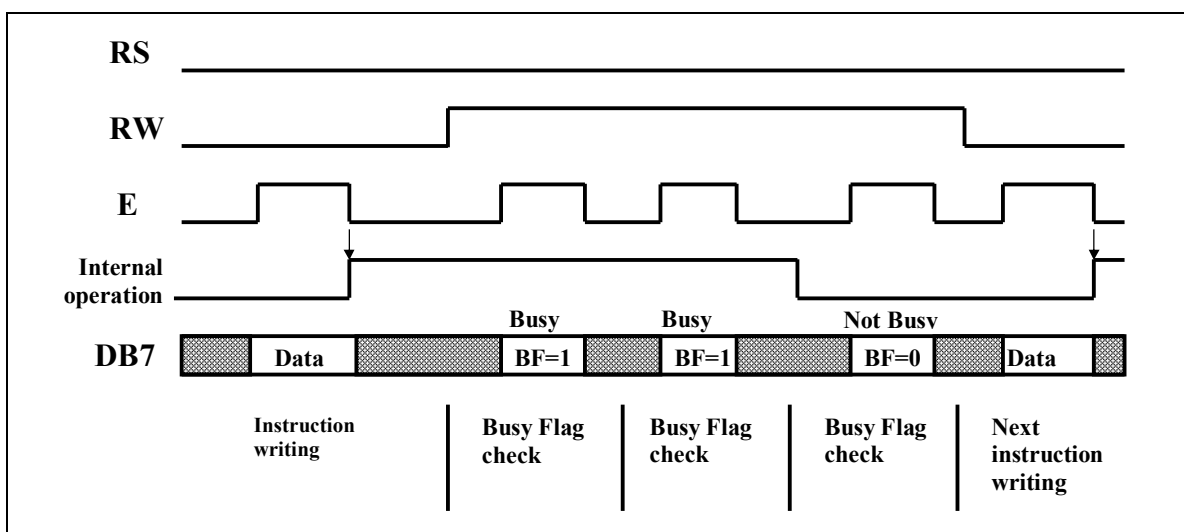

Figure 10. Example of instruction issuing with Busy Flag check in 8-bit interface mode.
- Busy Flag (BF) check, until it set in 0 state. It's the most efficient way (see Figures 10 & 11).